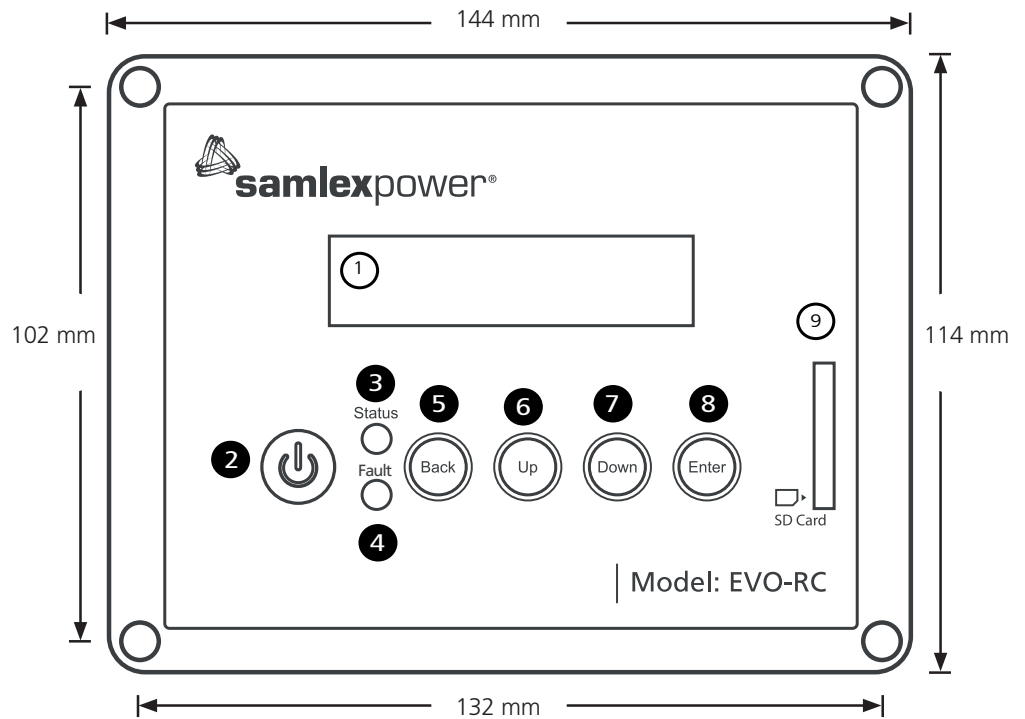

Fig 1.1 Optional Remote Control EVO-RC - Layout & Dimensions
The EVO-RC provides menu items and adjustable settings to configure your EVO™ Inverter/Charger to your specific parameters. Please refer to the layout at Fig 1.1.
c) Before proceeding, confirm that the unit is NOT in "Standby" Mode. If it is in "Standby Mode", the "Status" LED (*3, Fig 1.1*) will flash once every 5 sec and the LED screen will display one of the "Standby Mode" Screens show in Figs 3.2 (*Column 2, GROUP 1*). Press the On/Off Push Button (*2, Fig 1.1*) on the EVO-RC to exit the "Standby Mode" to the current operating mode. Refer to Section 3.4 for more details on "Standby Mode".
- From any Operating Mode Screen ("Inverting", "Charging" or "Power Save"), press the On/Off Push Key (2, Fig 1.1) momentarily (0.1 sec)
- If Standby Mode is required to be activated, press the On/Off Push Key (2, Fig 1.1) momentarily (0.1 sec)
- If Standby Mode is not required to be activated, press the Back Key (5, Fig 1.1) momentarily (0.1 sec)